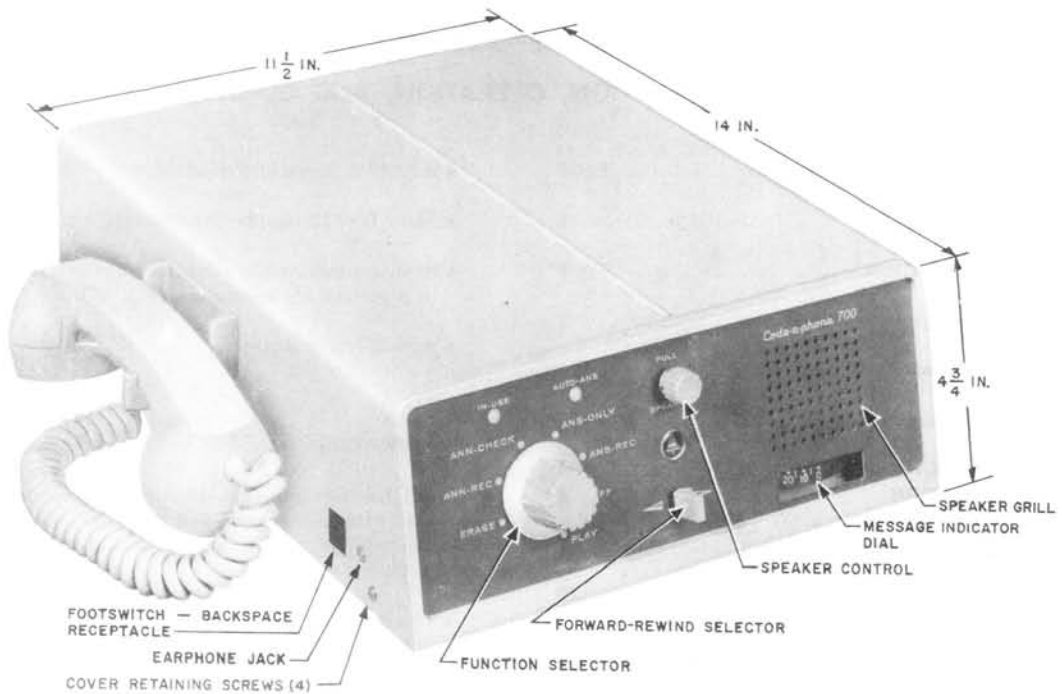

Fig. 1—KS-19245, List 1 (MD) Telephone Answering Set
**1.01** This section contains information on the KS-19245, List 1 (MD) (Fig. 1), List 13 (MD), and List 24 (Fig. 2) telephone answering set.
**2.01** The KS-19245, Lists 1, 13, and 24 telephone answering sets (Fig. 1 and 2) are automatic answering sets for either answer and record, or answer only service.
- Housed in a metal case. The cover has a light olive gray textured finish and the front panel has a blue-gray enamel finish. Dimensions of the Lists 1, 13, and 24 sets are shown on Fig. 1. Weight of List 1 set is 31 pounds and Lists 13 and 24 sets is 24 pounds.